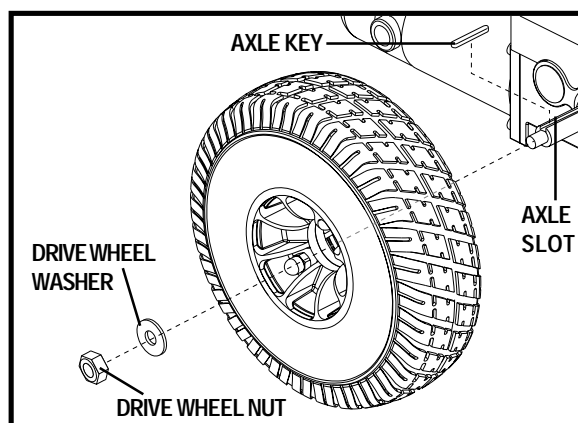

Figure 32. Jazzy 1107 Drive Wheel
4. Remove the drive wheel nut and washer from the axle. See figure 32.